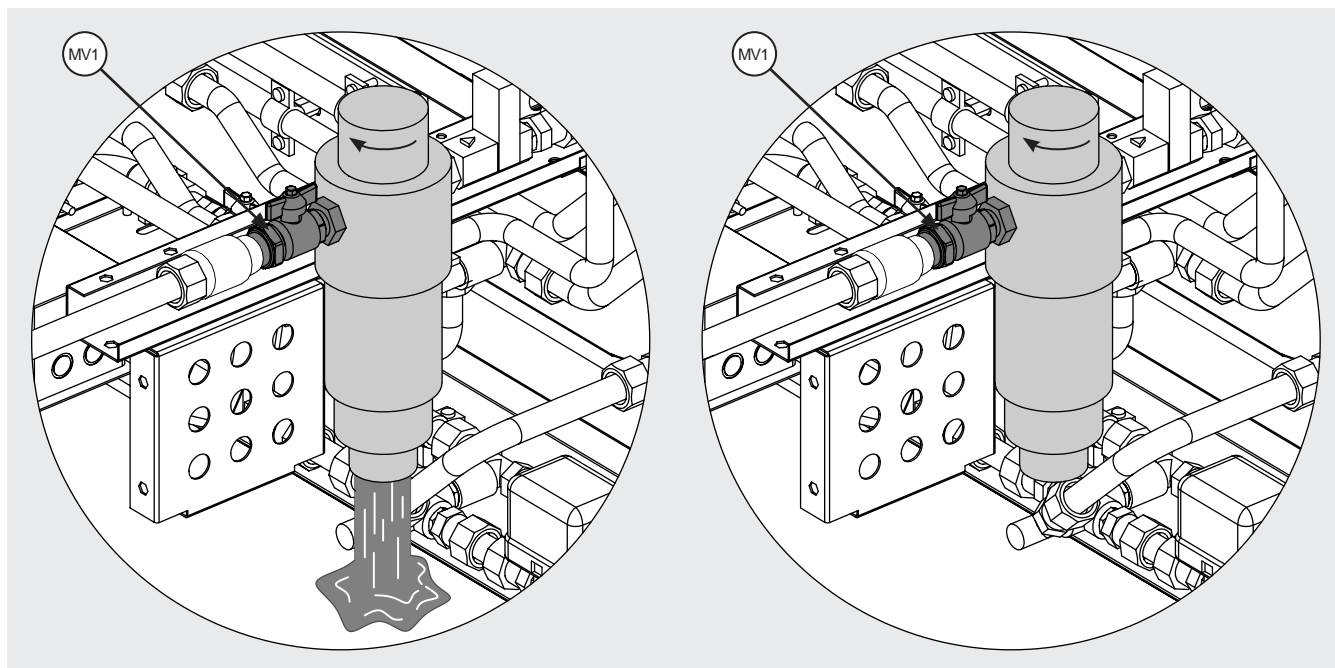

Figure 32
- 12.17.7 Make sure that mains water is available and that the manual valve (MV1) upstream of the filter is open, see Figure 32.
- 12.18.5 Ensure that the model is switched off, as per 12.1 - 12.4, and that the model's adiabatic circuit is isolated: close the inlet valve (MV1), see Figure 32.
- 12.18.12 When finished, open the previously opened valve (MV1), see Figure 32.
- 12.22.10 Clean the inlet water filter as per point 12.17 with the (MV1) valve (see Figure 32) closed. The residue will be discharged from the filter together with the water it contains.